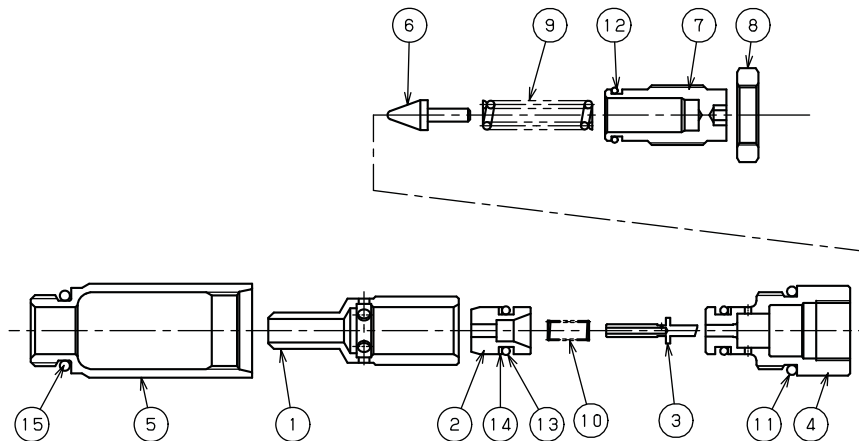

Fig.14 Disassembling main relief valve and overload relief valve
■ Disassembling main relief valve and overload relief valve (see Fig.14)
- ① Lightly hold any two surfaces of body (⑤) in a vise bench, whose hexagonal intervals are 22 mm.
- ② Loosen and remove M14 nut (⑧) by using 19 mm screw wrench.
- ③ Loosen and remove adjustable screw (⑦) by using 4 mm hexagonal wrench.
- ④ Take out regulating valve spring (⑨) by using tweezers or the like.
- ⑤ Loosen and remove valve seat (④) by using 19 mm screw wrench.
- ⑥ The other parts can also be removed in the following order: